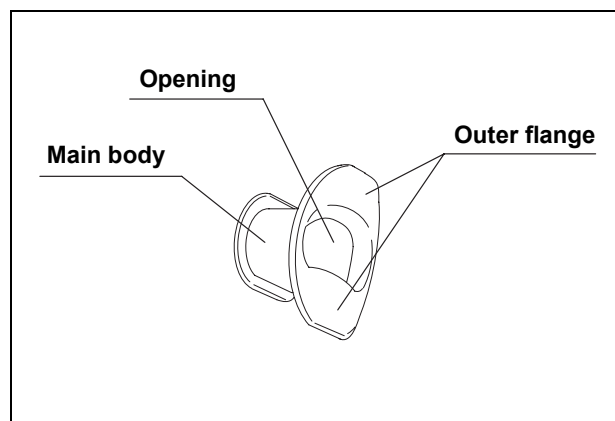

Figure 3.12
1. Confirm that the mouthpiece is free from cracks, deformation or discoloration (see Figure 3.12).
2. Using your fingers, check for excessive scratching or other irregularities on all surfaces of the mouthpiece (see Figure 3.12).